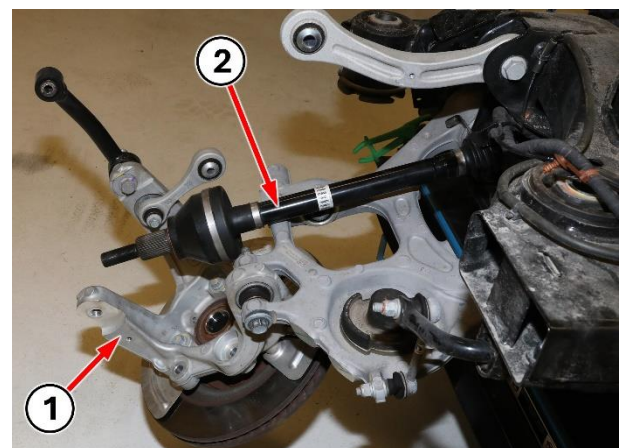

Figure 27 – Halfshaft and Knuckle
- 64. **Both right and left sides:** Release the outer halfshaft joint from the hub then lower the knuckle (Figure 27).